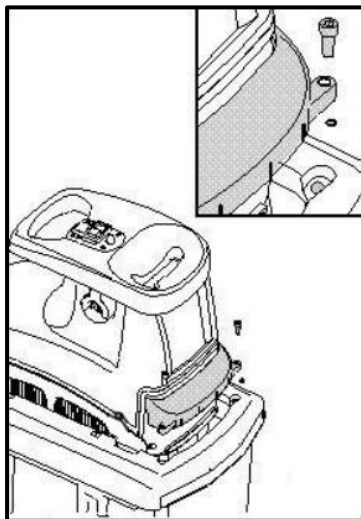

Fig.9
8. Fix the locating plate to base frame with two screws. (Fig.9)